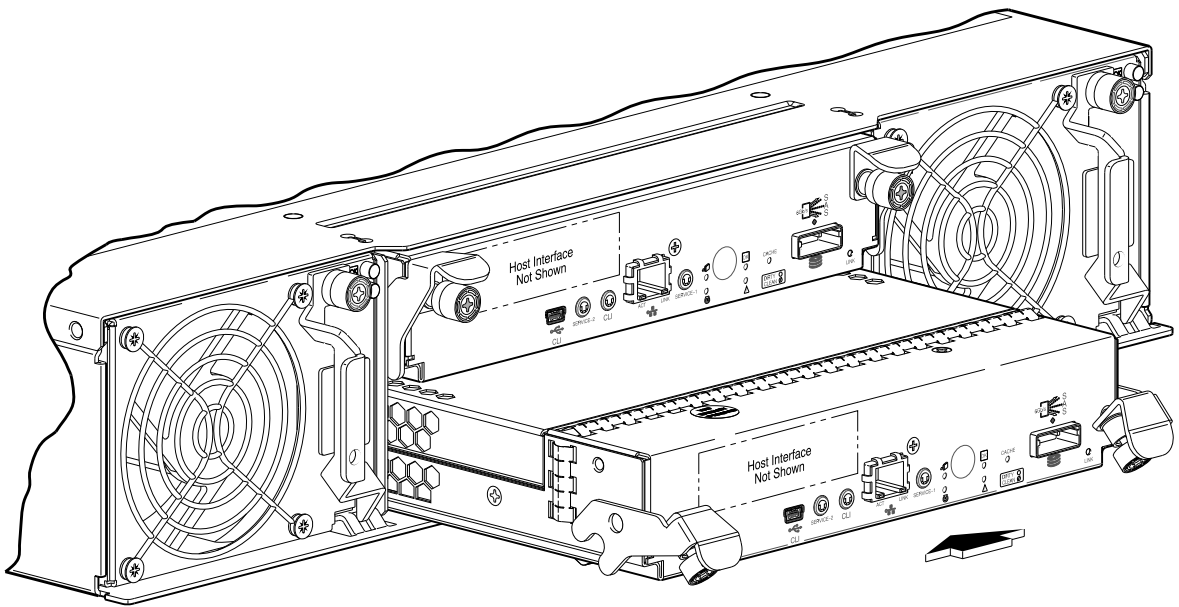
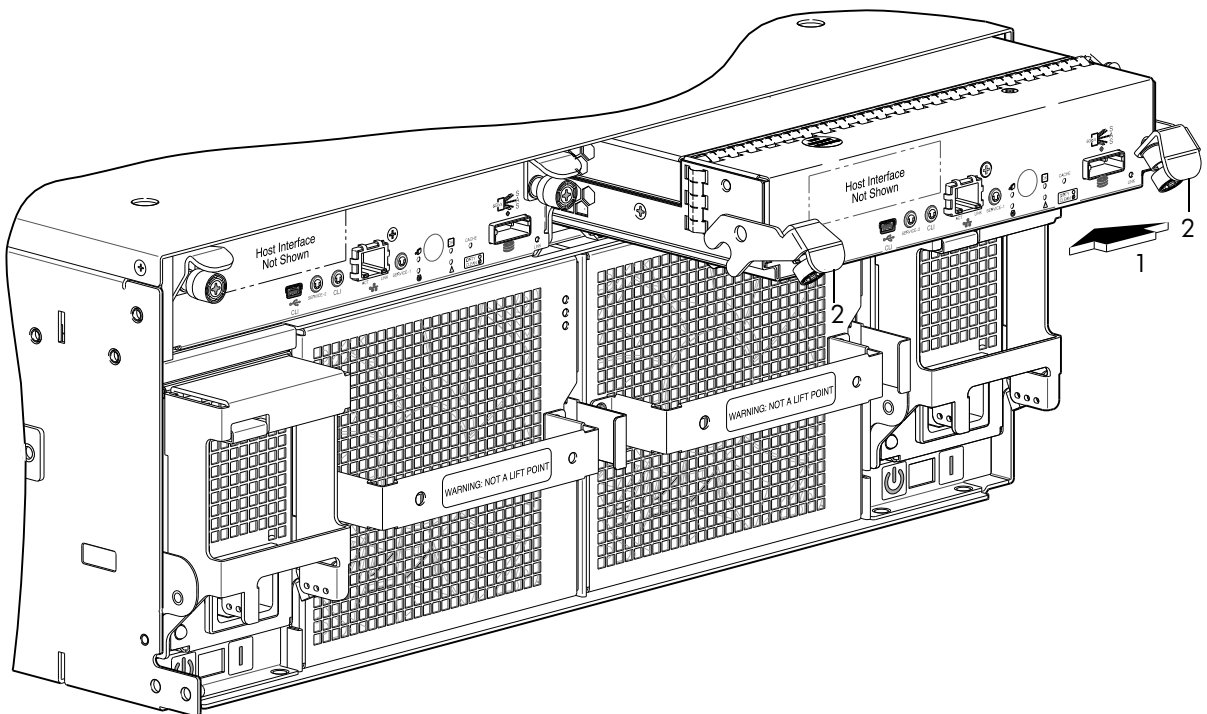

Figure 20 Inserting a controller module (2U)
Figure 21 Inserting a controller module (4U)
1. Loosen the thumbscrews; press the latches downward (see Figure 20 or Figure 21 on page 34).
2. Ensuring that the controller module is level, slide it into the enclosure as far as it will go (1).